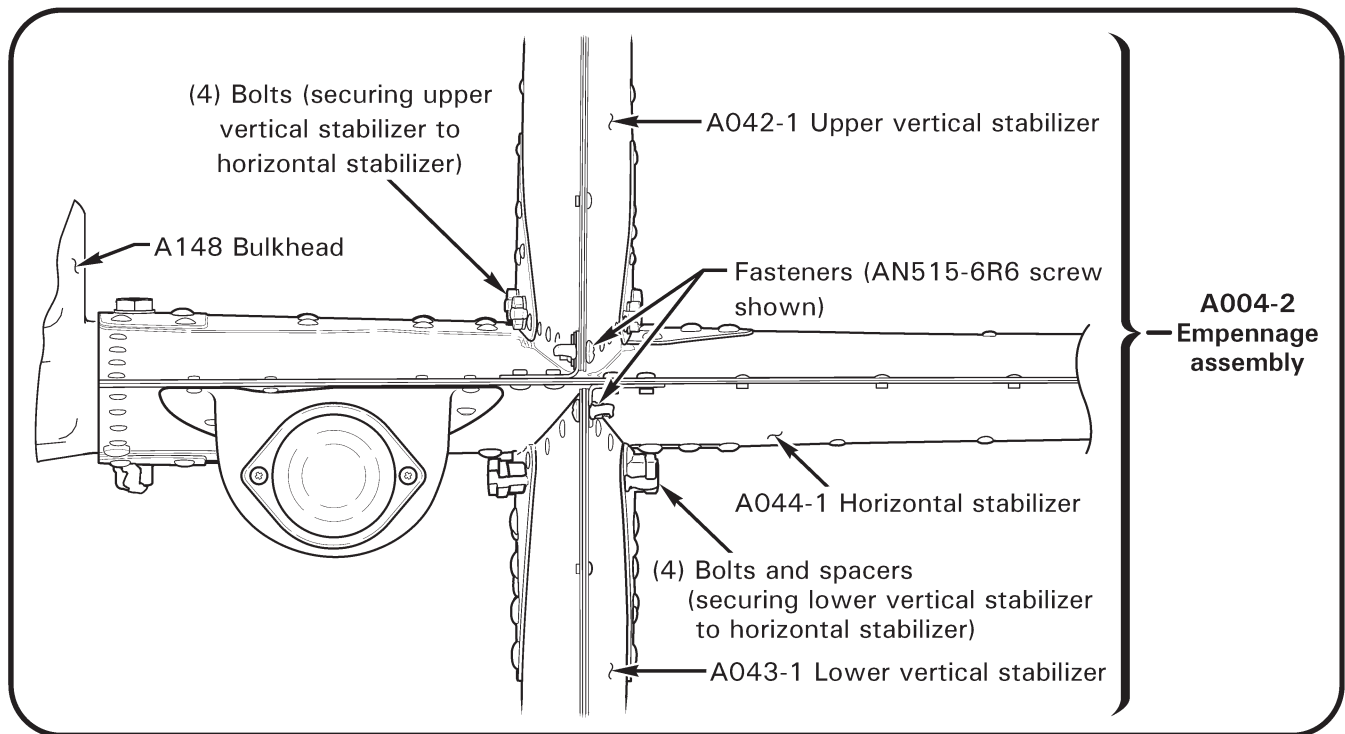

FIGURE 4-3 EMPENNAGE ASSEMBLY INSTALLATION
2. Refer to Figure 4-3. Supporting empennage assembly, remove hardware securing empennage to tailcone assembly aft bulkhead, and remove empennage.
1. Refer to Figure 4-3. Position empennage assembly on tailcone assembly aft bulkhead. Install (2) NAS1304-28 bolts & associated hardware securing stabilizer to aft bulkhead. Standard torque bolts and palnuts per § 23-32 and torque stripe per Figure 2-1.
1. Refer to Figure 4-3. Remove fastener securing A554 clip to A042-1 upper vertical stabilizer assembly.
1. Refer to Figure 4-3. Position A042-1 upper vertical stabilizer assembly on A044-1 horizontal stabilizer. Verify 0.030–0.120 inch gap between vertical stabilizer skin edges and horizontal stabilizer upper skin. File vertical stabilizer skin edge(s) as required. Conversion coat & prime bare aluminum edges per §§ 23-51 & 23-60.
1. Refer to Figure 4-3. Remove fastener securing A554 clip to A043-1 vertical stabilizer.
1. Refer to Figure 4-3. Position A043-1 lower vertical stabilizer assembly on A044-1 horizontal stabilizer. Verify 0.030–0.120 inch gap between vertical stabilizer skin edges and horizontal stabilizer lower skin. File vertical stabilizer skin edge(s) as required. Conversion coat & prime bare aluminum edges per §§ 23-51 & 23-60.
2. Refer to Figure 4-3. Position A554-1 clips on horizontal stabilizer, install fastener securing each clip to upper or lower vertical stabilizer. With upper and lower vertical stabilizers in-line, match drill clips to horizontal stabilizer using #30 drill. Deburr holes and install rivets securing clips to horizontal stabilizer. Reinstall fasteners and torque stripe per Figure 2-1.